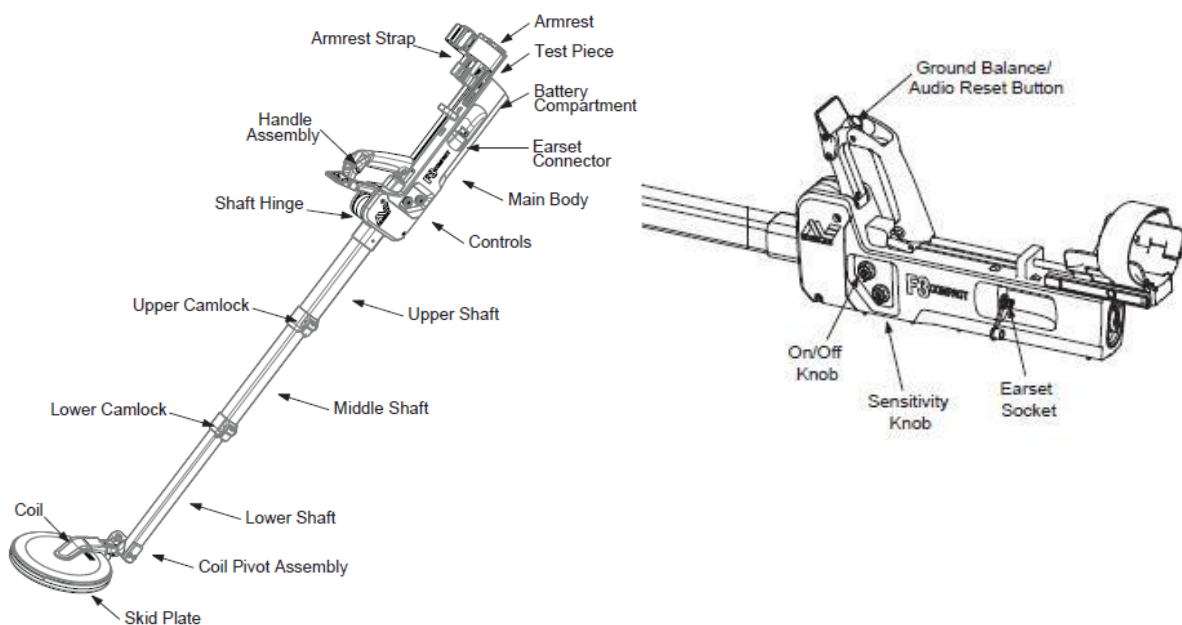

Figure 2: F3 COMPACT Major Components
a. Confirm all parts and accessories are present and in good working order. Unpack the detector and prepare for use. Figure 2 identifies the major components of the F3 COMPACT. Mechanical testing and inspection includes checking: